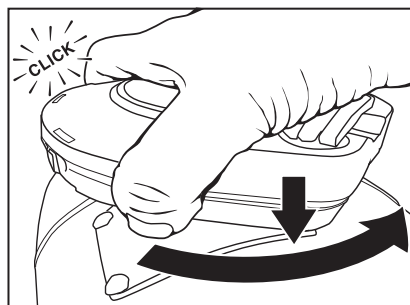

Fig. 2.
2. Slide the regulator onto the "D" shaft and push down while turning counterclockwise until it snaps into place (see Fig. 2).